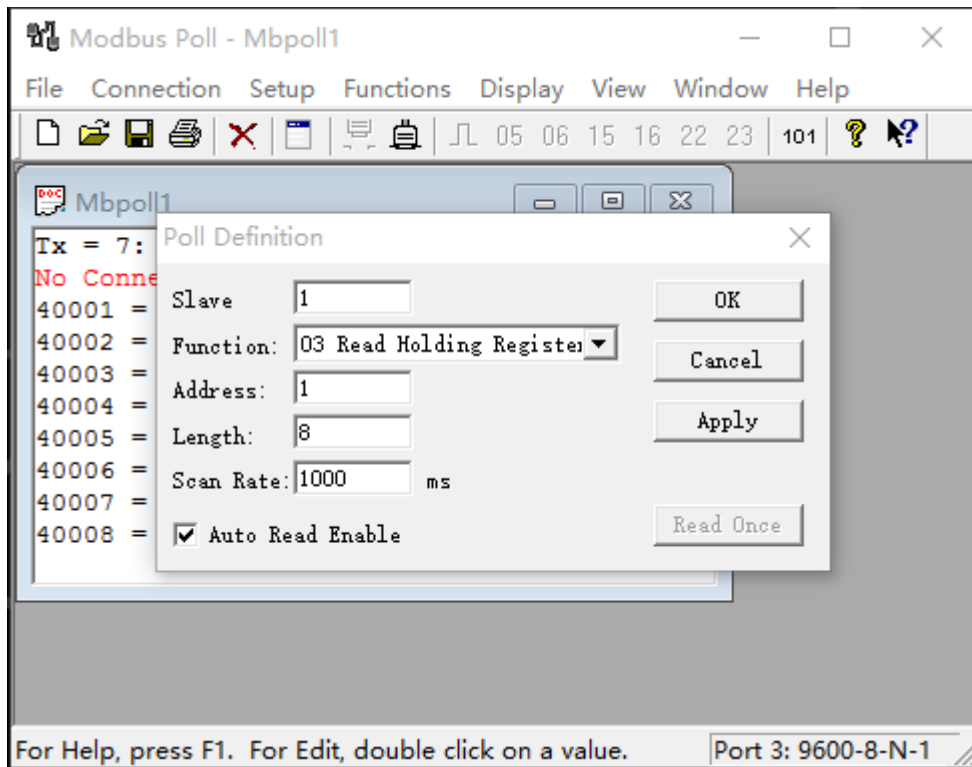

Figure 16 Poll Definition Setting
(4) Click the "OK" button. Then click the "Setup" item in the menu, select the Poll Definition option in the drop-down box, and the dialogue box shown in Figure 16 will appear.